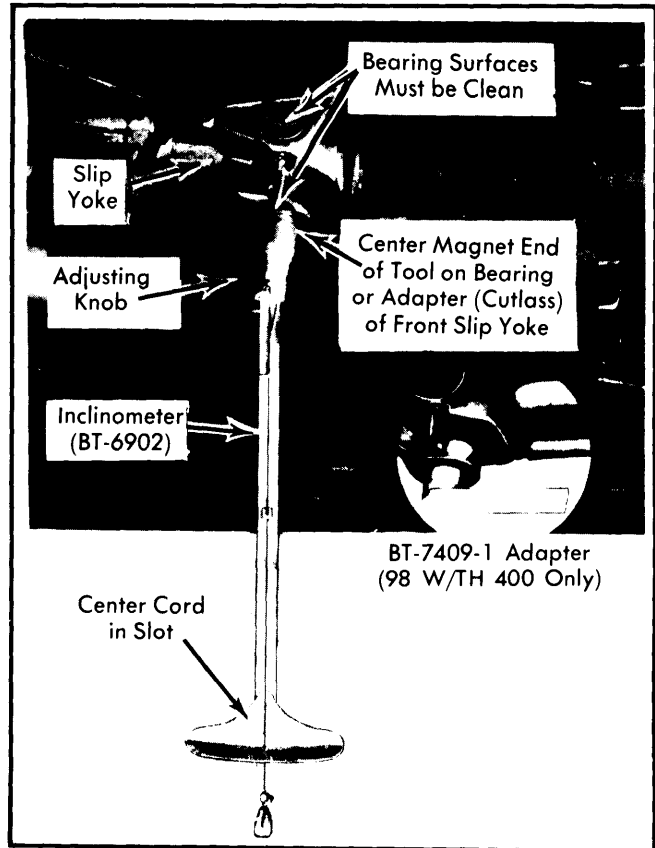

Fig. 2 Checking Transmission Angle
2) Clean all universal joint bearing caps and remove retaining rings from bearings if equipped. Turn drive shaft until slip yoke bearings are vertical. Attach inclinometer as shown Fig. 2 and turn knob of tool until weighted end of cord is at "0" marking of gauge. (On 98 with TH 400 transmission, install adapter tool (BT-7409-1) prior to attaching inclinometer.)